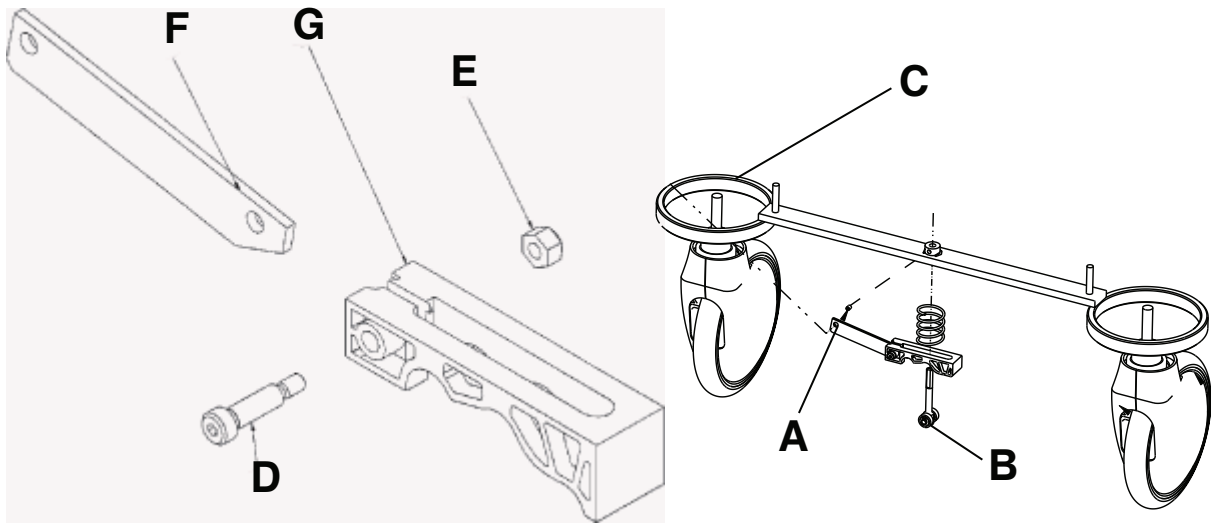

Figure 3 – Replacing the brake cam
3. Using a 3/32" hex wrench, loosen the set screw (A) that holds the brake adjuster (B) to the brake ring (C). Turn the adjuster (B) clockwise to remove the adjuster (Figure 3).
4. Using a 1/8" hex wrench, remove the shoulder bolt (D) and nut (E) that hold the brake link (F) on the cam (G). Remove the cam (G) (Figure 3).
5. Reverse steps 3 and 4 to install the supplied cam (G).